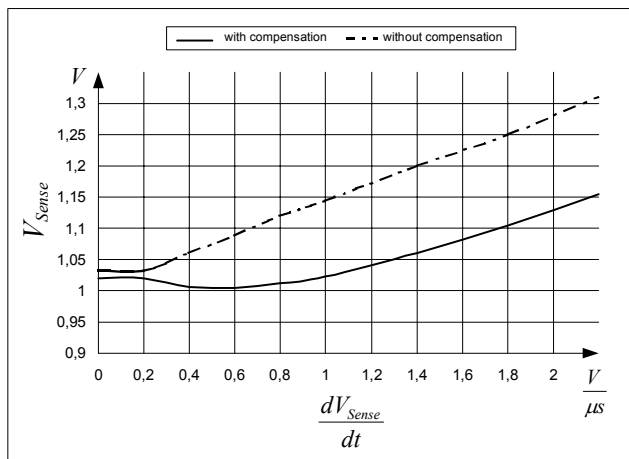

Figure 13 Overcurrent Shutdown
E.g.  $I_{peak} = 0.5A$  with  $R_{Sense} = 2$ . Without Propagation Delay Compensation the current sense threshold is set to a static voltage level  $V_{csth} = 1V$ . A current ramp of  $dI/dt = 0.4A/\mu s$ , that means  $dV_{Sense}/dt = 0.8V/\mu s$ , and a propagation delay time of i.e.  $t_{Propagation Delay} = 180ns$  leads then to an  $I_{peak}$  overshoot of 14.4%. By means of propagation delay compensation the overshoot is only about 2% (see Figure 13).